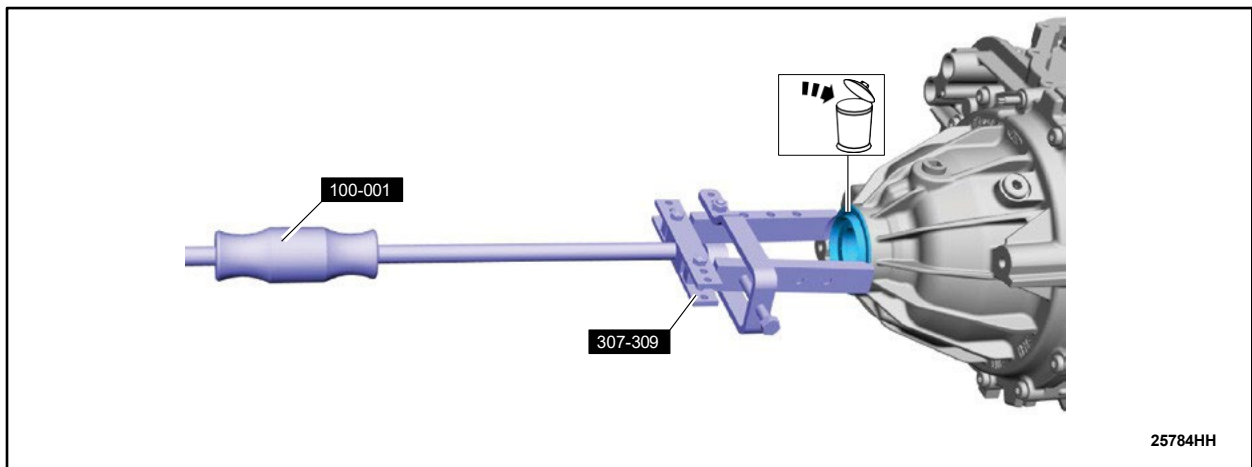

FIGURE 33
36. Using the special tools, remove and discard the LH rear halfshaft seal. See Figure 33.